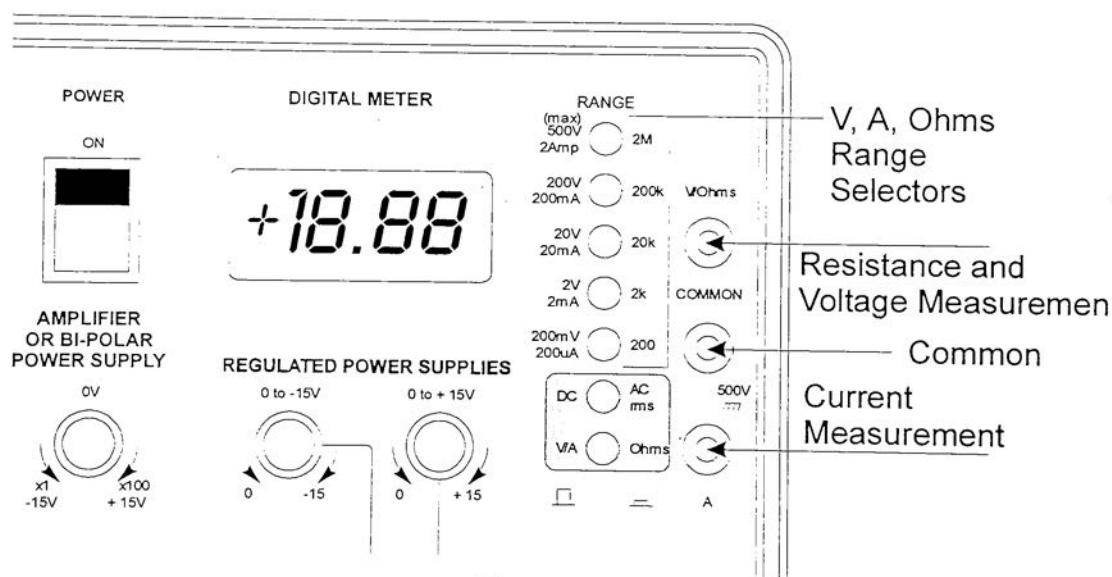

Fig 4.6
4.8 Digital Meter (See Fig 4.6).